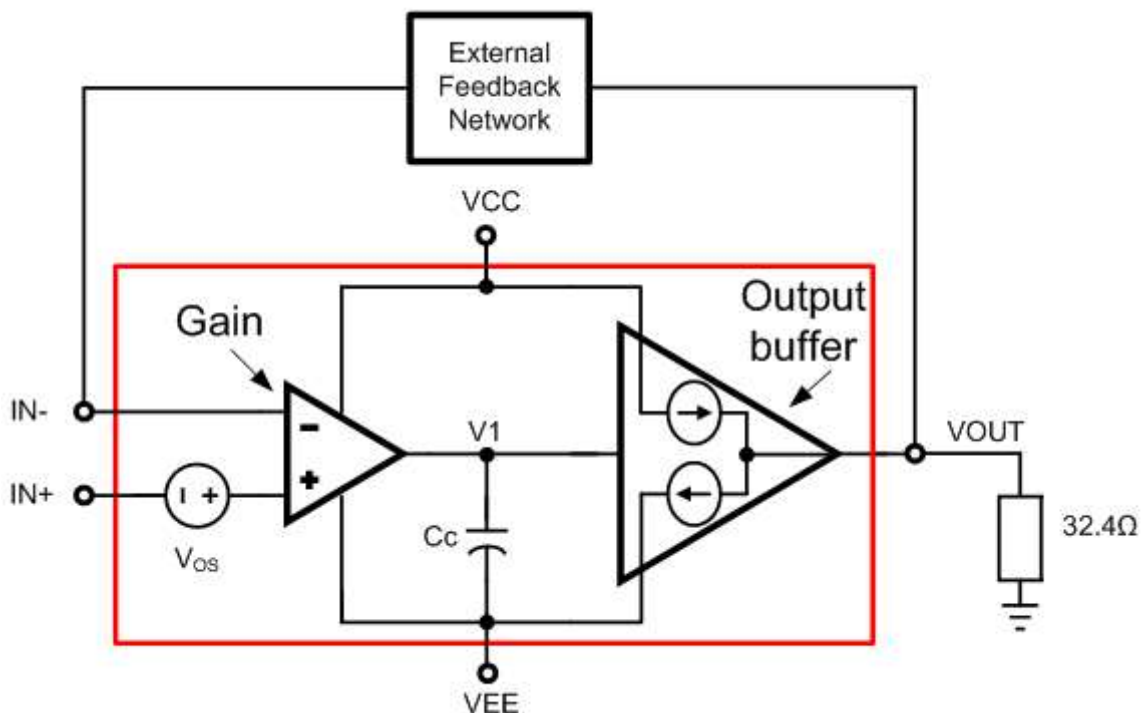

Figure 1: Op amp driving a headphone load
- Figure 1 is a simplified block diagram of an op amp driving a headphone load. It consists of two stages – a gain stage and an output buffer – as well as a compensation capacitor, C_c , and an offset voltage, V_{os} . The output buffer is a unity gain stage capable of sinking and sourcing current as shown.